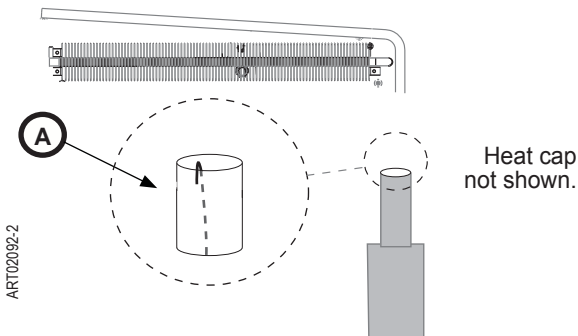

Fig. 16 - Flue Tube / Flame Spreader Hook
9. Confirm flue tube is unobstructed by any blockage. Confirm spiral flame spreader is installed in flue tube. Flame spreader hangs in flue tube by wire hook (Fig.16,A) over top of tube.